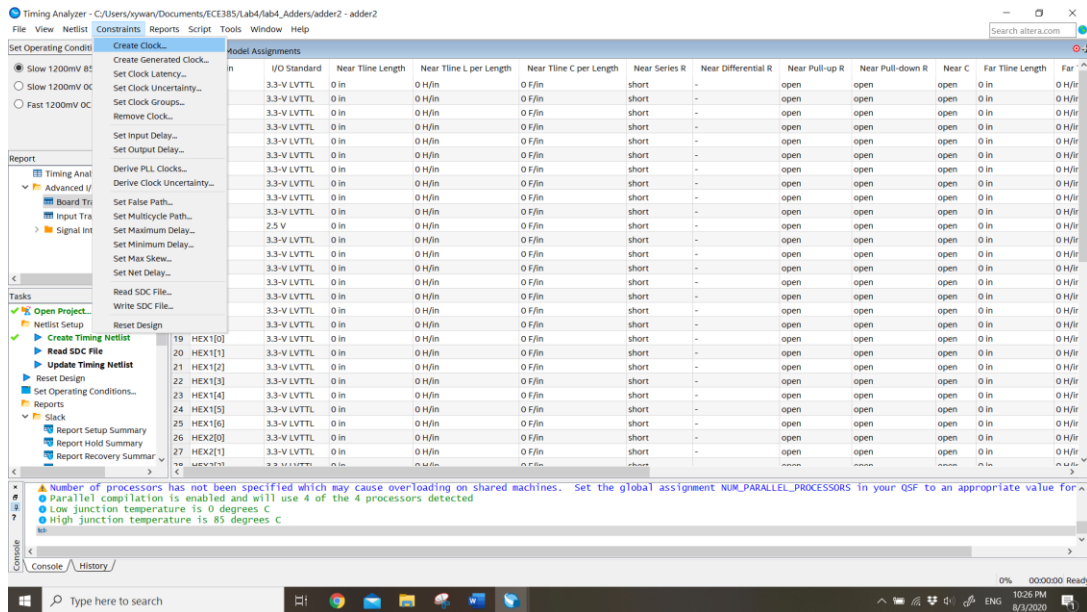

Figure 7
6. Select “Constraints -> Create Clock” to create a clock signal as shown in figure 7.